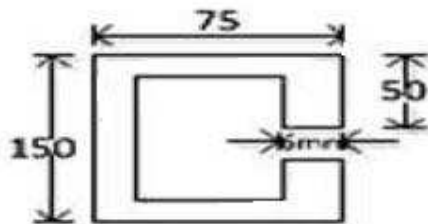

Figure 1
- b) Locate the shear centre of the section shown in Figure 1. Thickness is 6mm throughout.